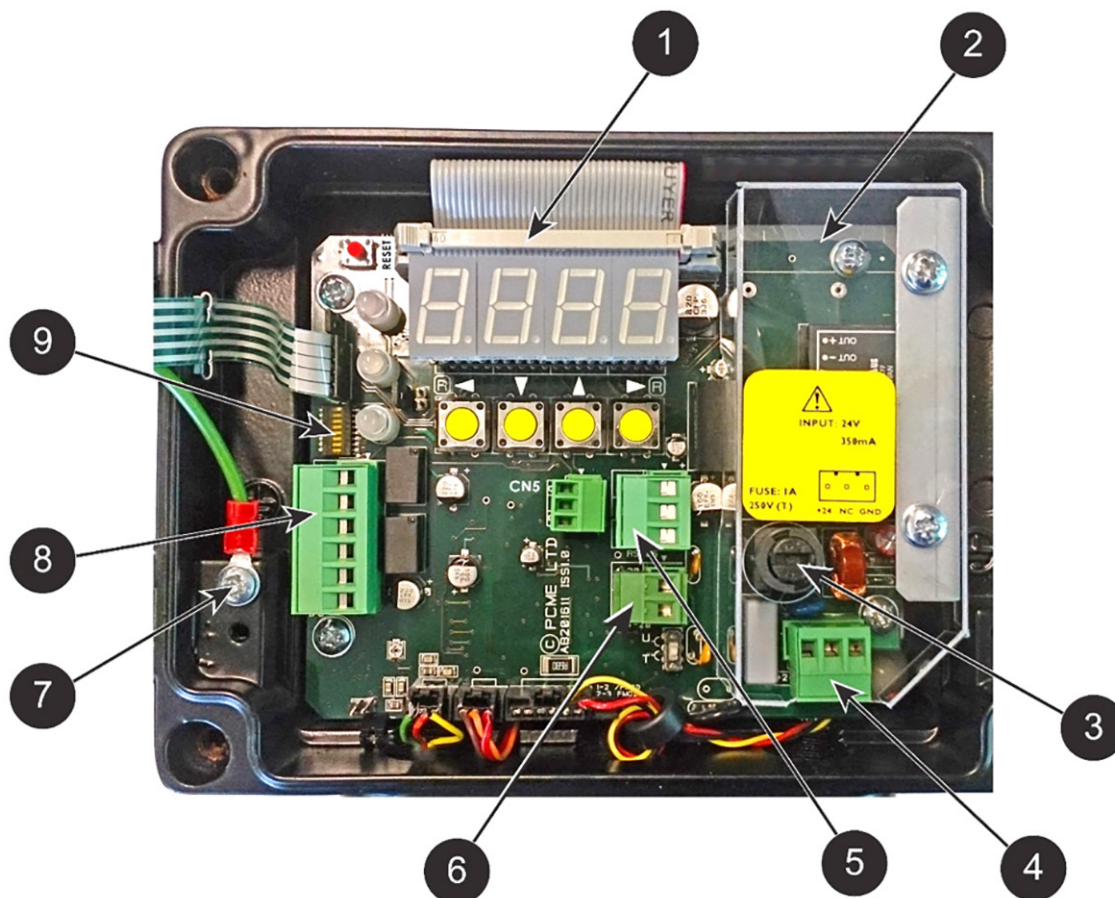

Fig. 4-2 4750-PM Sensor PCB Connections
- 3) Referring to item 2, Fig. 4-2, undo the 2 off screws and remove the power supply cover.
Each sensor must have a unique address on the network (for ON = switch position is to the LEFT). The Modbus address is set by means of the dip switch (see item 11, Fig. 4-2 for its location) using a suitable implement (such as a small flat-blade screwdriver).
Both Modbus communications protocols, ASCII and RTU, are available and can be set via the dip switch (see item 11, Fig. 4-2 for its location). Use switch positions 6 through 8 to define the communications protocol settings. Note that the baud rate is set to default value. Use switches 6 and 7 to define the baud rate; currently both switches are set to OFF (RIGHT) for the default baud rate.
Referring to item 8, Fig. 4-2 (on page 4-8), route a suitable cable through a vacant cable gland and connect to the Digital Input terminal. The maximum voltage across input is 48V, nominal 24V. The maximum current allowed per pin is 16 mA.
Referring to item 6, Fig. 4-2 (on page 4-8), route a suitable cable through a vacant cable gland and connect to the 4-20mA O/P terminal.
Referring to item 8, Fig. 4-2 (on page 4-8), route a suitable cable through a vacant cable gland and connect to the Relay 1/Relay 2 terminals.